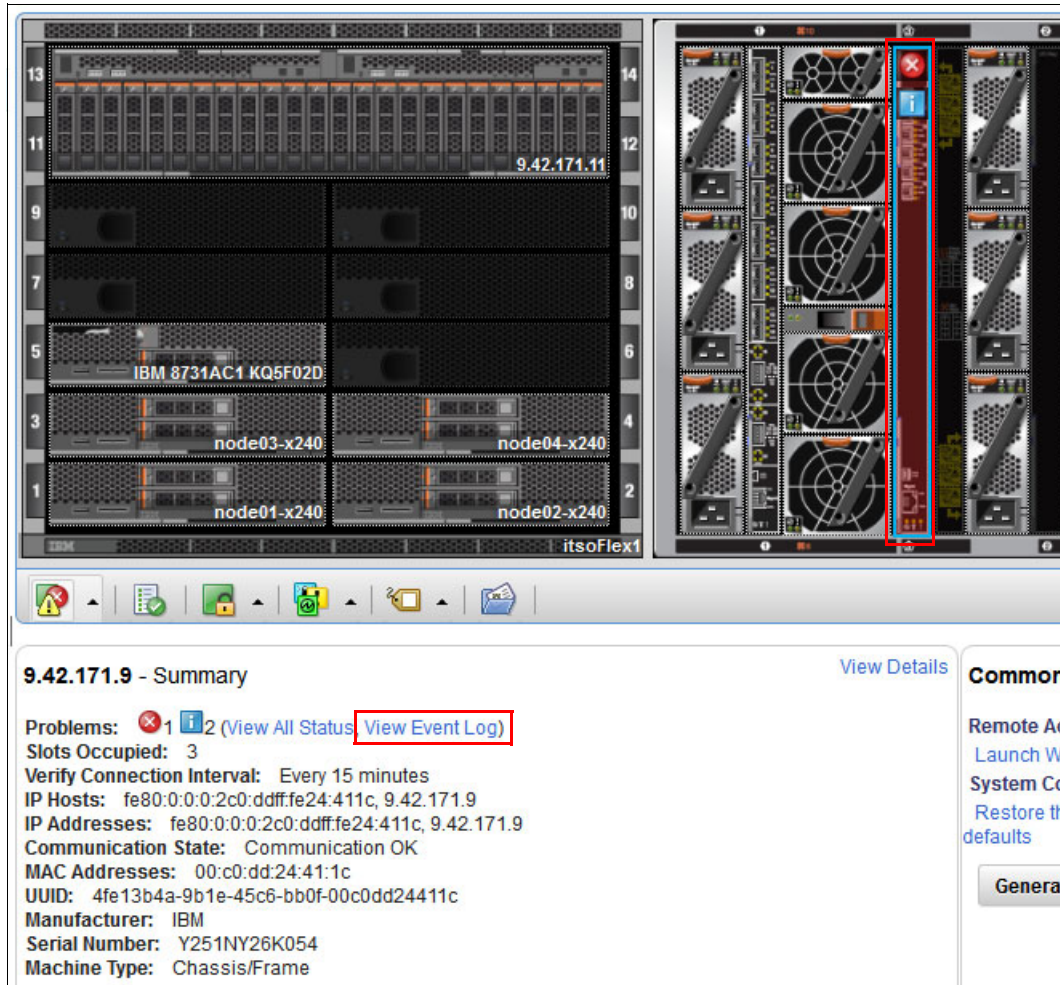

Figure 7-12 Opening the event log for the specific component
2. Click **View Event Log** in the Summary area below the Chassis Map, as shown in Figure 7-12.